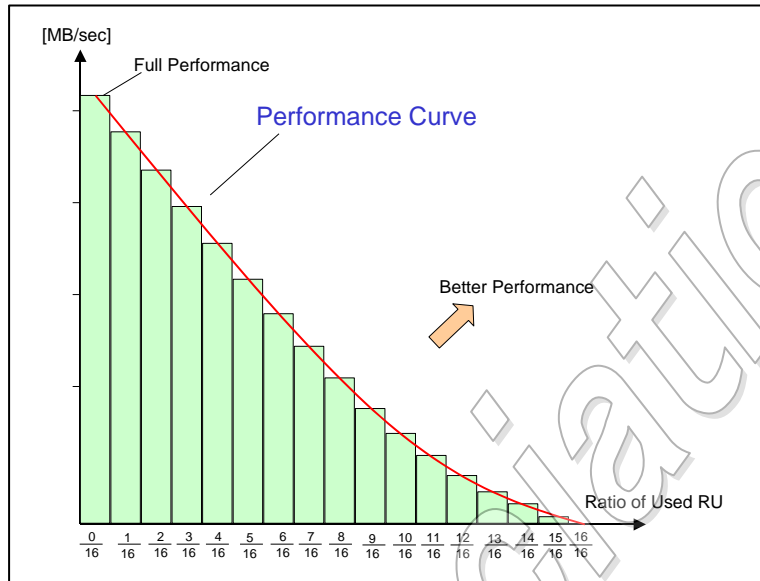

Figure 4-49 : Card Performances between 16 RUs
Figure 4-49 shows the write performance bar chart of P(Nu) of equation (1). An AU consists of 16 RUs in this example. Joining the points of each bar shows the performance curve, which can be determined from the two parameters, Pw and Pm.